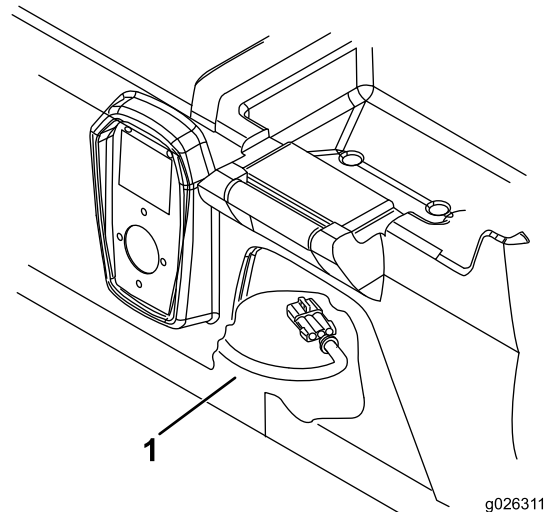

Figure 3
1. Reach under the seat base and unplug the charger wiring harness connector (Figure 3).
1. Reach under the seat base and unplug the charger wire harness connector (Figure 3).